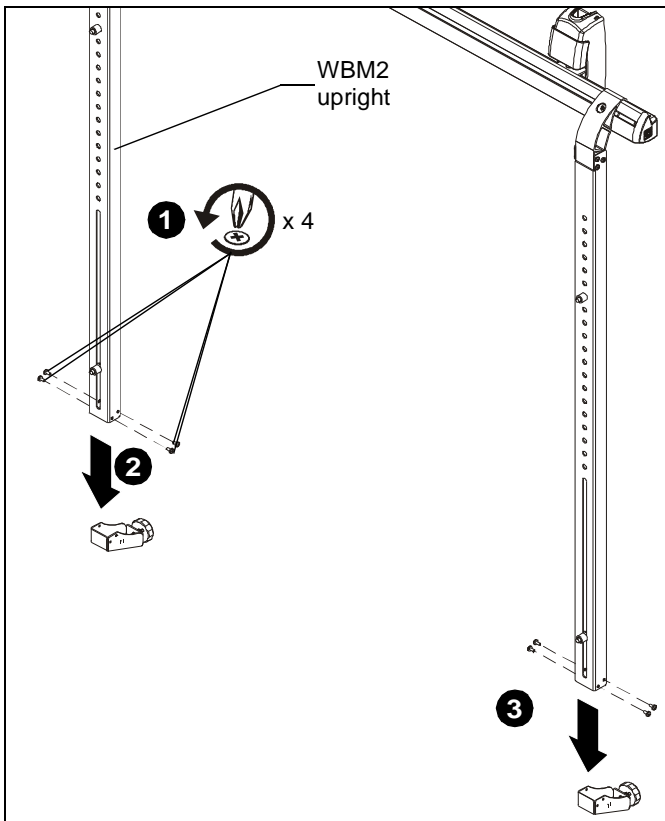

Figure 1
1. Remove and **discard** four Phillips screws from bottom of WBM2 upright. (See Figure 1)
2. Remove lower foot of WBM2. (See Figure 1)